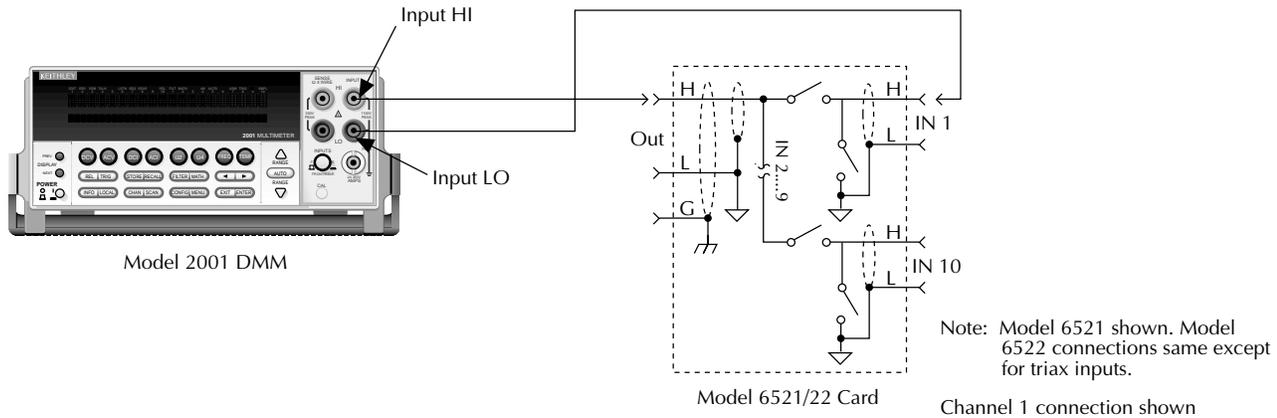

Figure 4-2
1. Connect an alligator clip lead to the HI and LO input jacks of the DMM to be used for the test. (See Figure 4-2.)
6. Connect the DMM LO input lead to the HI terminal of the channel 1 input cable using bare wire or a suitable adapter, and connect the DMM HI input lead to the HI terminal of the scanner card output jack with a similar adapter. (Again, refer to Figure 4-2.)